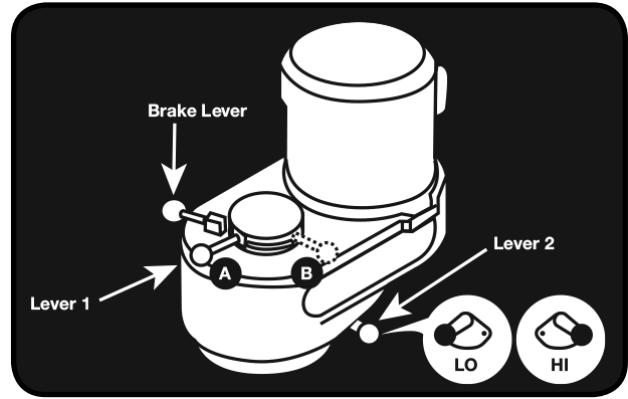

Fig. 4.4
4. Lever 1 is shown in Fig. 4.4 in the HIGH or LOW position
NOTE: If this step was not successful, use HIGHLOW range lever (Lever 2 Fig. 4.4) to reset speed range, then repeat this step until you are certain that spindle is seated into spindle clutch.